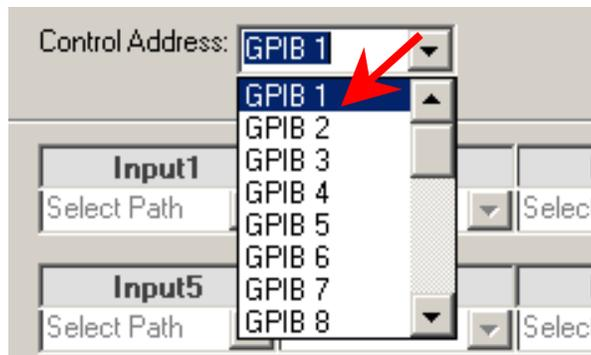

Figure 4. GPIB Control Address
- If Control Type is “GPIB”, the Control Address can be any GPIB port between 1~25(Figure 4). User must also manually select the GPIB Address on the LIGHTech’s LT2000 series switches to match the GPIB Control Address selected in this program (refer to LT2100 Matrix Switch Operation Manual). The Control Address is GPIB 16 by default.